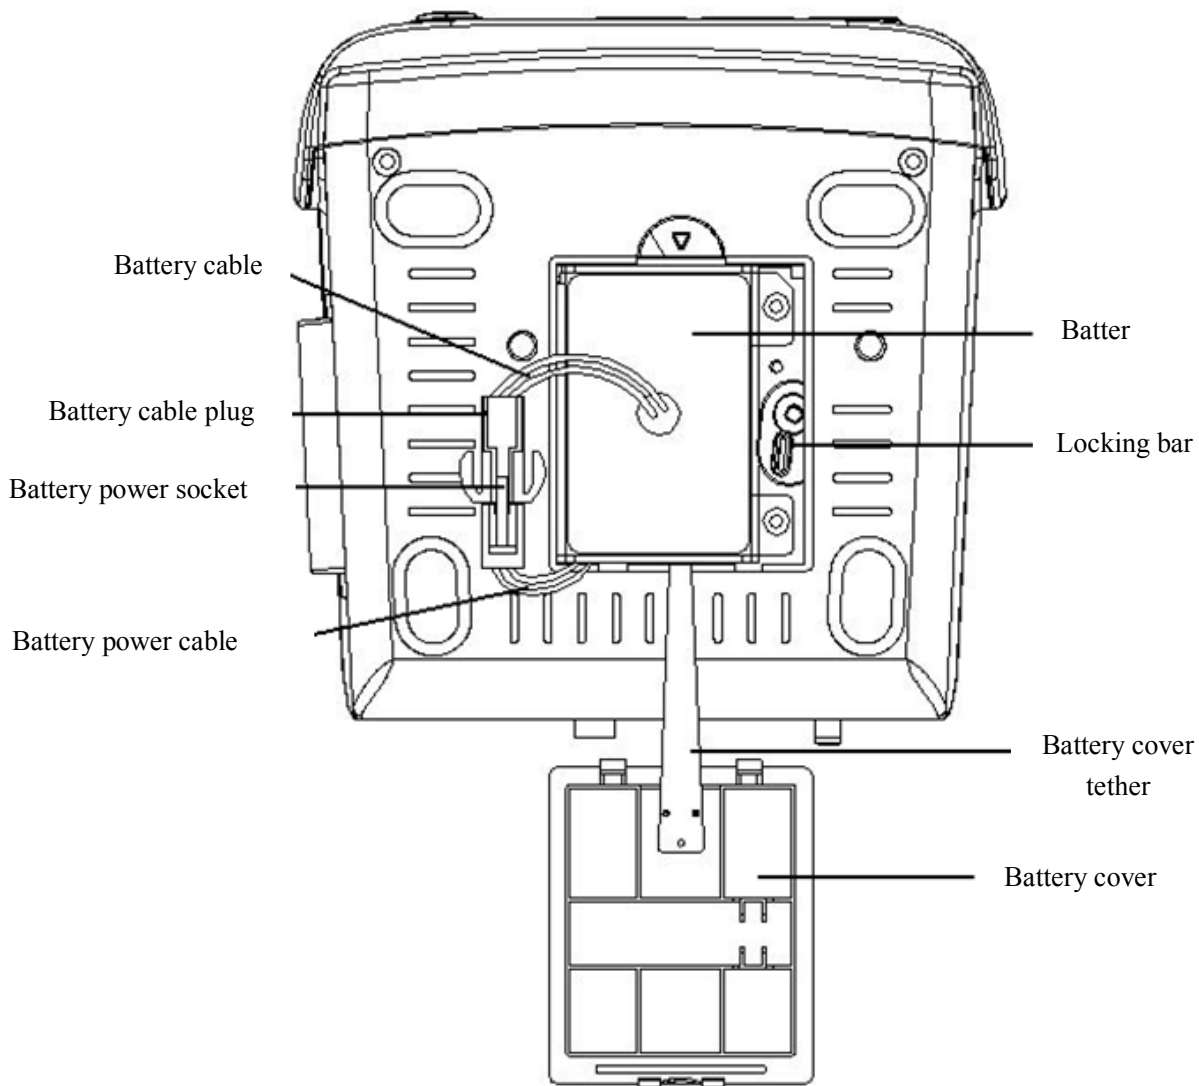

Figure 3.6 Battery Installation
4. Connect the battery cable plug to the battery power socket in right direction, as shown in figure 3.6.